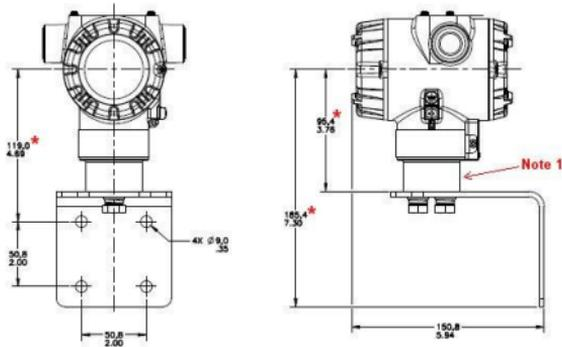

Figure 2 – STT750 with adapter housing - Horizontal Wall Mounting
*** Note 1:** In Figures 2, 3 and 4, Housing adapter may not be present on all transmitter models. If the housing adapter is not present, subtract 24,5mm (0,96 inches) from the dimension specified.